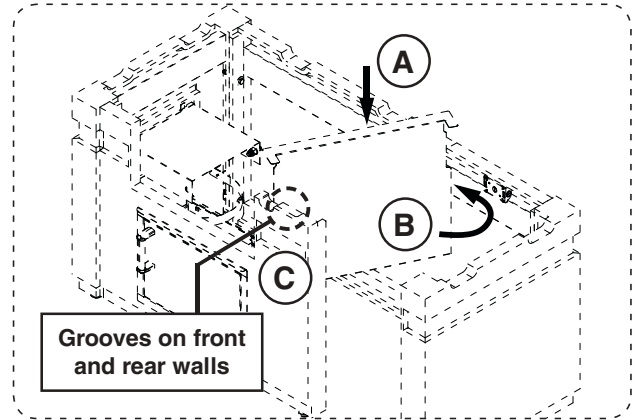

Fig. 10-1 Place heat shield
Place the heat shield as shown in Fig. 10-1. It will need to be inserted at an angle to clear the island (A). Then turn it (within the island slots) until it is perpendicular with the front and rear walls (B). Locate the heat shield in place by using the grooves found on the top of the front and rear walls (C).